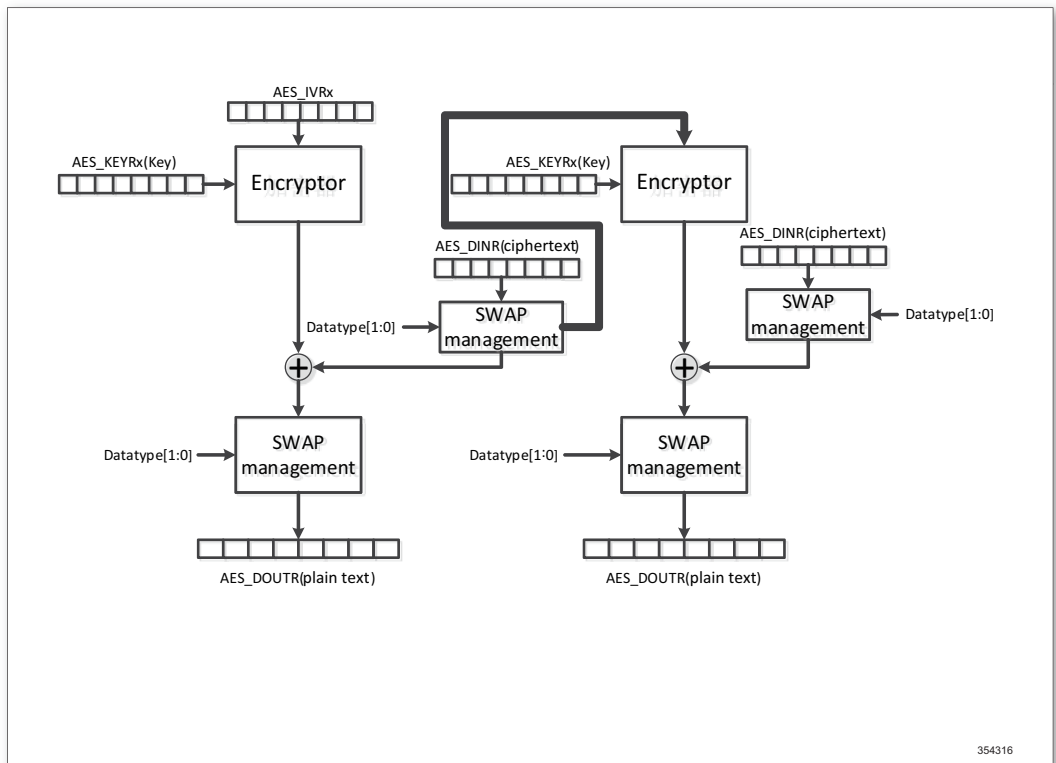

Figure 263. Decryption in CFB Ciphertext Feedback Mode
- Encrypt the initialization vector by using cipher (IV)
- XOR the ciphertext with the encrypted result of IV to obtain the plaintext, as shown in Figure 263